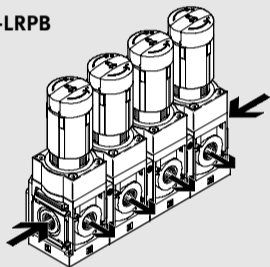

Fig. 1
The precision pressure regulator type MS6-LRP(B) has been designed for regulating the compressed air in the following string to the set output pressure p2. The MS6-LRP(B) smooths out fluctuations in pressure here. The output pressure p2 can be set within the pressure regulating range (→ "Technical specifications"). The MS6-LRP(B) enables pressure to be supplied on both sides (→ Fig. 1).